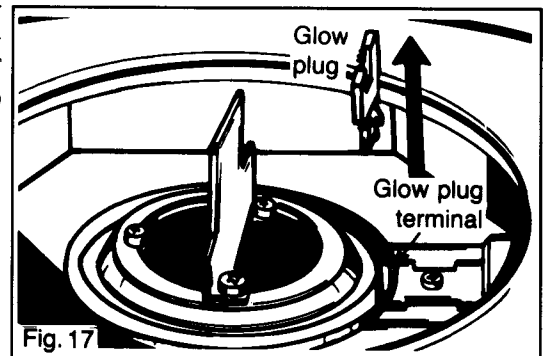

Fig. 17
2. Remove old glow plug by tilting slightly inward and pulling upward (See Fig. 17).